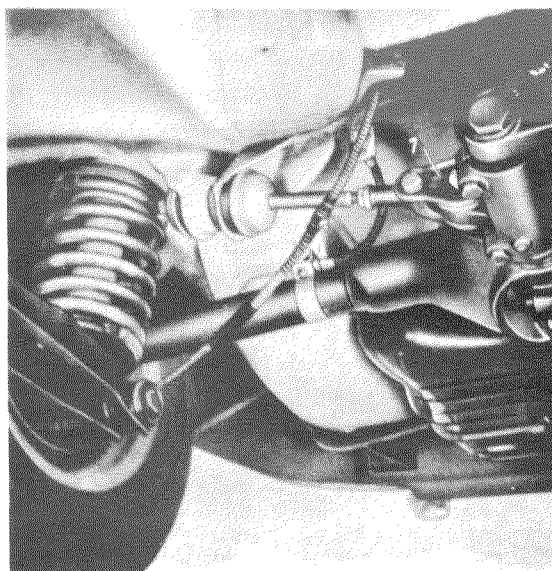

Fig. 35 — 1/9
23. Fix the torque arms to the support and cotter. The fixing nuts must be tightened to a torque of 8 mkg. Both the support and the cup must lie perfectly flat against the contact surface at all points and there must be no intervening space (see Fig. 35 — 1/8 b).